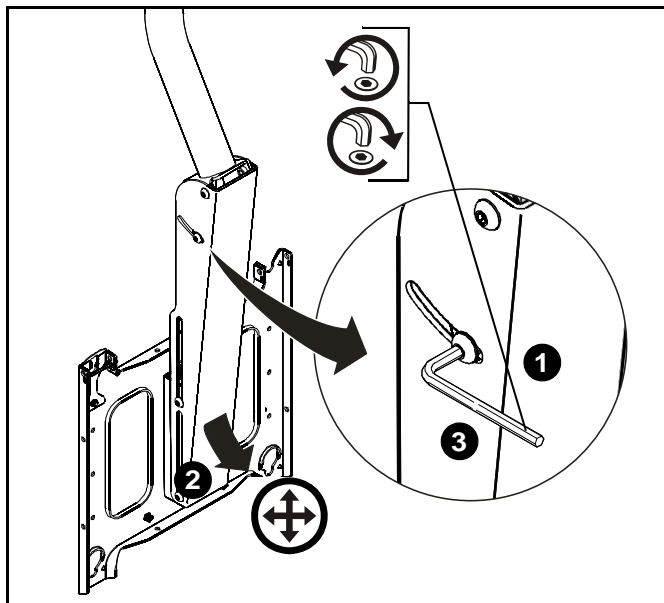

Figure 9
(See Figure 9)
2. Adjust to desired tilt position. (See Figure 9)